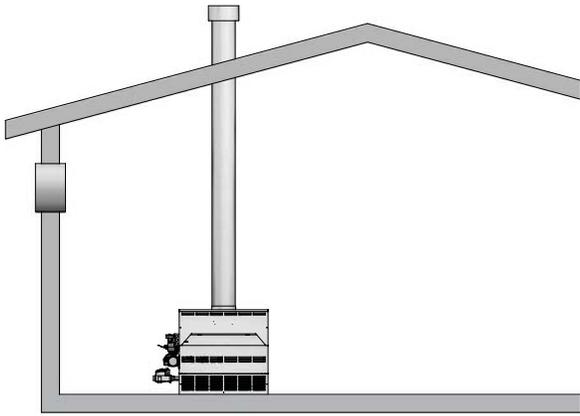

Figure 1-6 _ Combustion Air from Outside Single Opening
4. If a single combustion air opening is provided to bring combustion air in directly from the outdoors, the opening must be sized based on a minimum free area of one square inch per 3000 Btu/hr (7 cm² per kW). This opening must be located within 12" (30 cm) of the top of the enclosure (see FIG. 1-6).